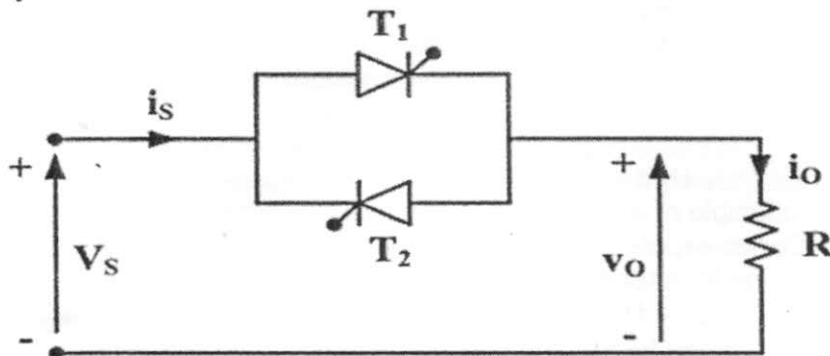

Figure Q.6.b
- b) A single-phase ac voltage controller as shown in Figure Q.6.b is controlled by a input supply voltage with $V_s = 230$ V, 60 Hz. Assume a purely resistive load of $R = 20 \Omega$. The firing angles of thyristors T_1 and T_2 are equal i.e. $\alpha_1 = \alpha_2 = \alpha = \pi/3$. Calculate i) the rms output voltage, V_o , ii) the input power factor, PF, iii) the average current of thyristors, and iv) rms currents of thyristors.